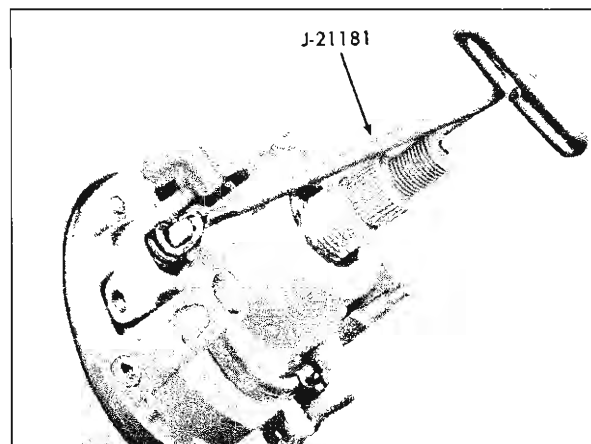

Fig. 35—Installing Return Springs
13. With the tilt wheel mechanism tilted fully "up", install the upper ends of the return springs on the actuator using Tool J-21181 and then set tilt wheel mechanism in center position (fig. 35).